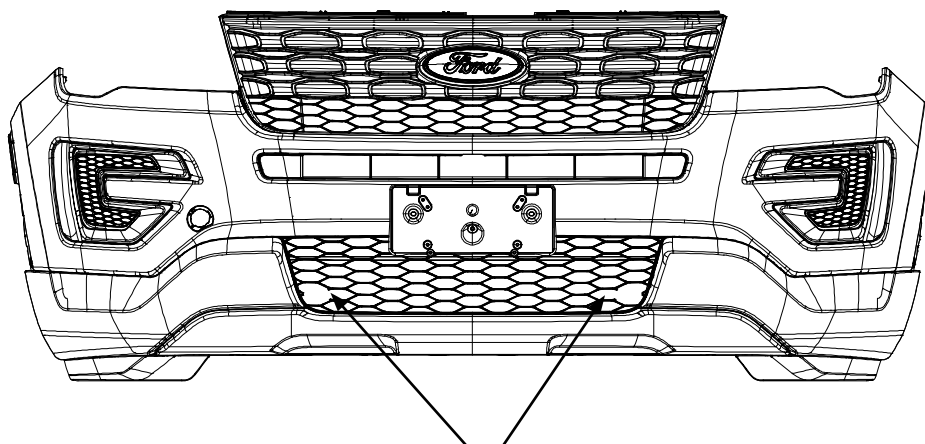

Figure 3.
- F. Cut and remove lower grille trim from both ends so the lower mounting brackets are able to protrude through. See figure 3.